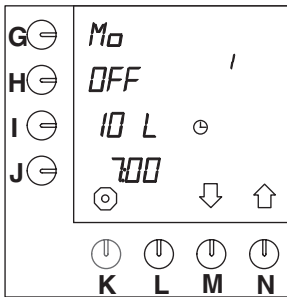

Fig. 33 Pre-programmed settings (inactive)
There are fourteen pre-programmed "time settings" for all days of the week. As soon as these are activated through the procedure below, they will only be active and visible in the user mode. All settings can be set as desired. The fourteen settings are default (fig. 33):
- Press selection key (N.)↑ until fig.33 appears on the display.